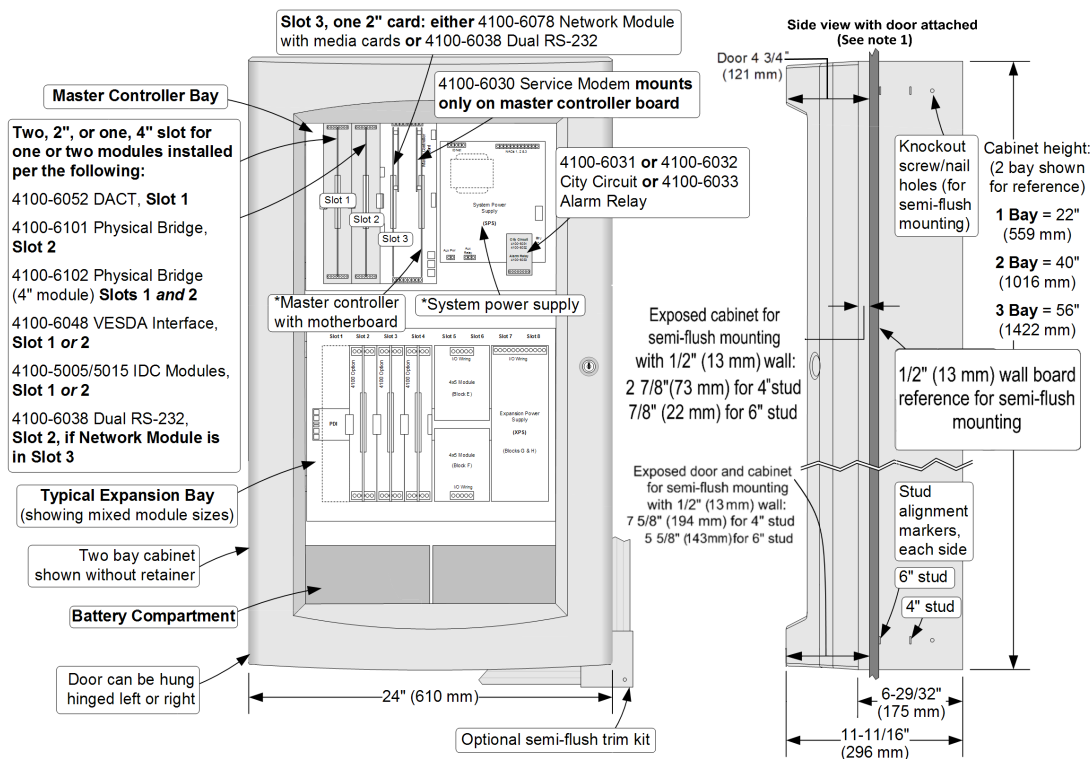

Figure 5: Mounting and CPU Bay Module Reference
2. Asterisks (*) in Figure 5 indicates supplied modules.